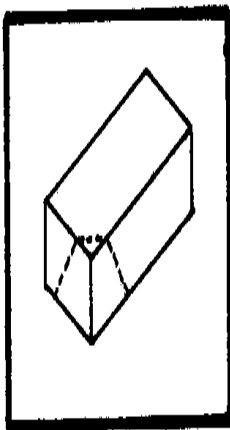

Fig. 16 -
57. Corner Breaks A corner break is caused by a combination of a side break and an end break (see Fig. 16).